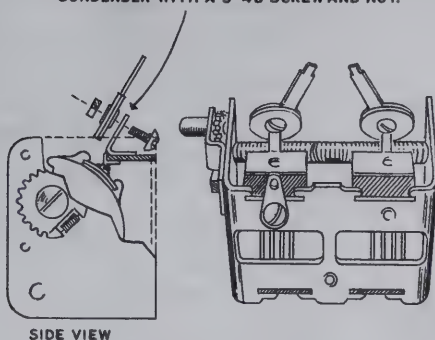

Fig. 4
- (✓) Bend the remaining two stator lugs as shown in Figure 4, side view.